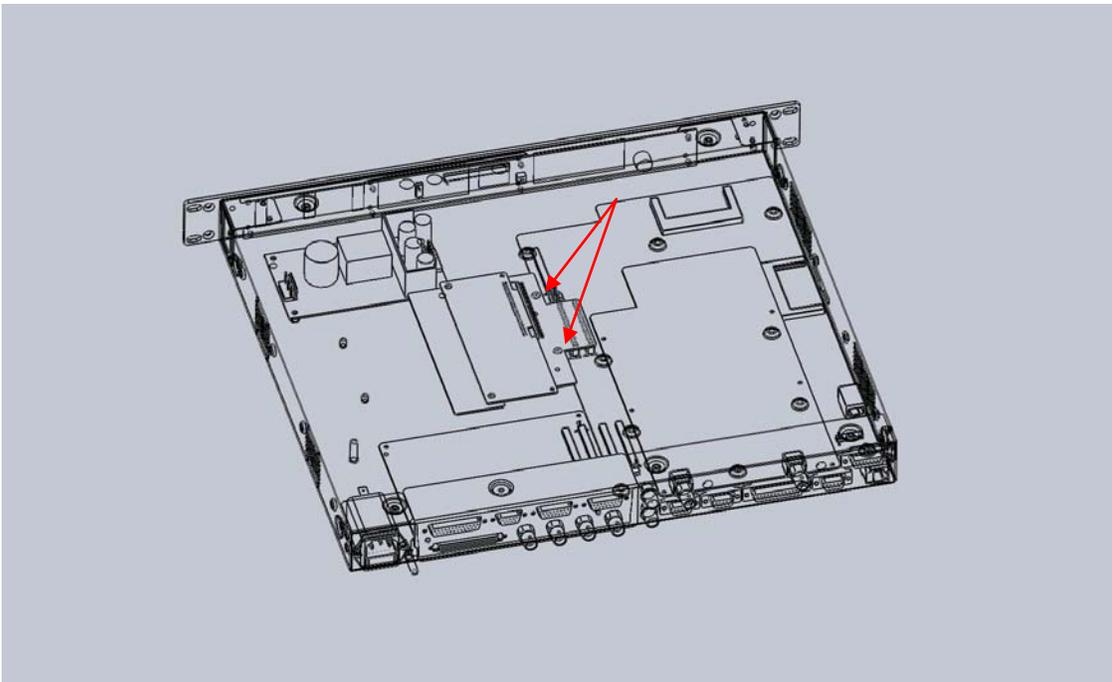

Figure 3
3. Install 4/40 x 3/8 Pan Head Phillips Screws in two places to secure assembly as shown in Figure 3